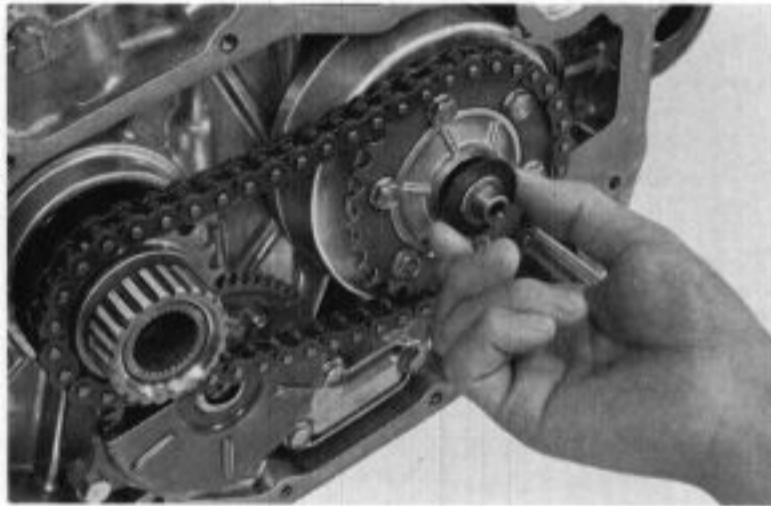

Fig. 7B-114
6. Fit the thrust washer on the end of the crankshaft outside of primary clutch. (Fig. 7B-114)